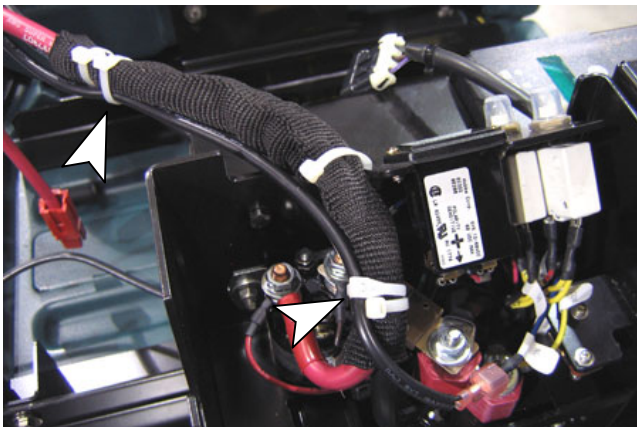

Fig. 8
10. Using wire ties, secure charger wire to main harness as shown (Figure 8).